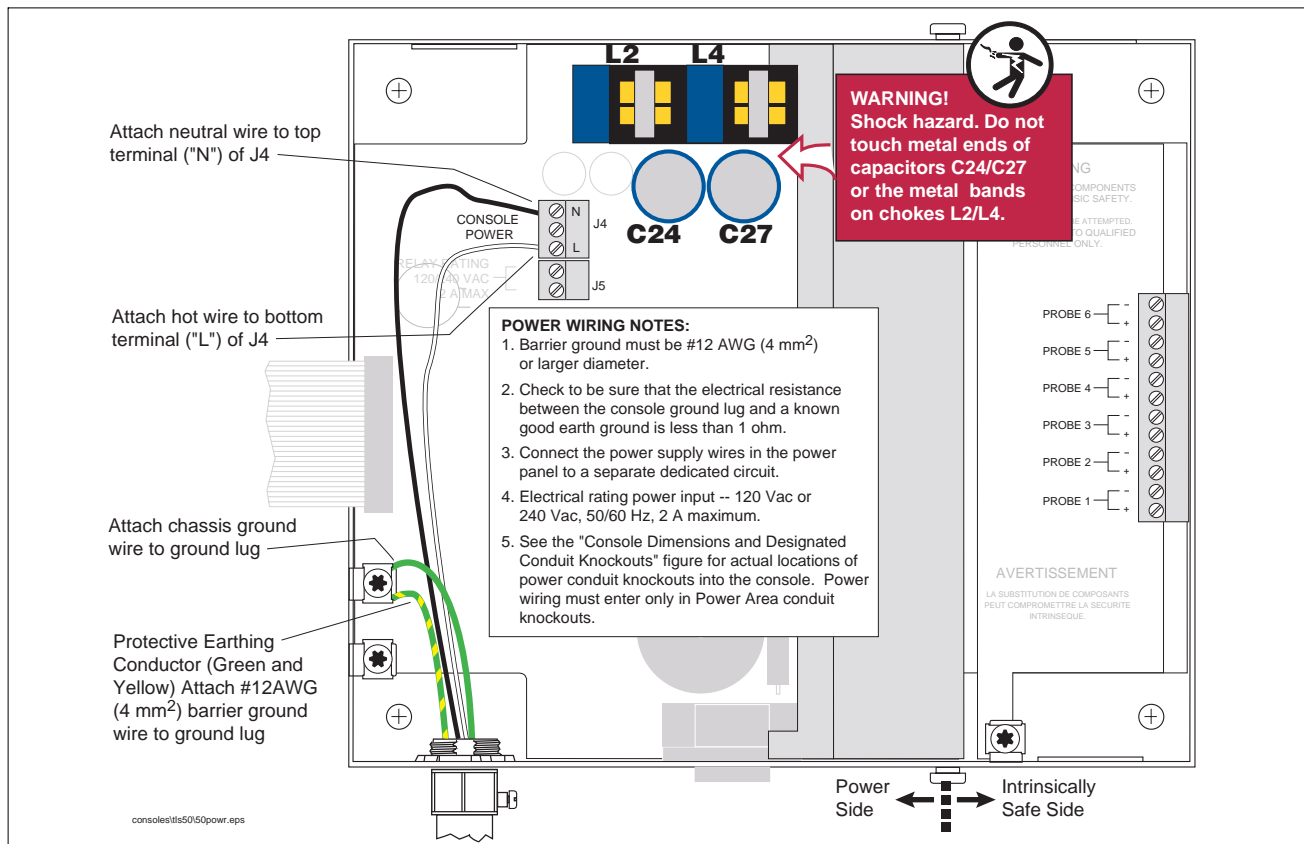

Figure 5. Wiring AC Power to the Console
2. Open the right door of the console and connect the four power/ground wires as shown in [Figure 5]. Do not connect the power wires to breaker panel at this time.